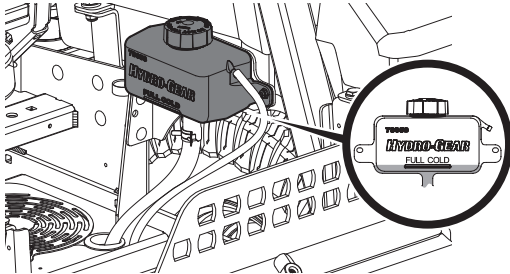

Figure 42
- Turn the reservoir cap counterclockwise to remove, then check the oil level in the reservoir. Oil should be visible at the bottom of the cup, but the oil level must NOT be above the "FULL COLD" line (Figure 42). DO NOT FILL THE RESERVOIR.